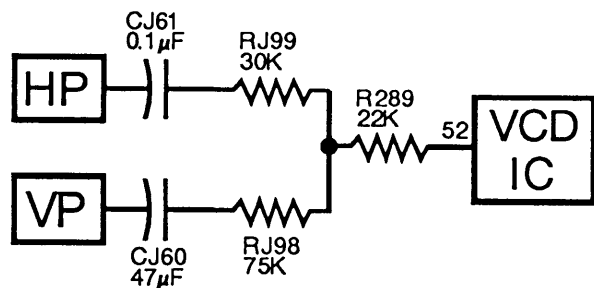

Figure 9-5: Dynamic Contrast Circuit
A Dynamic Contrast circuit is included to improve contrast in the center of the screen. The Horizontal Parabola (HP) and Vertical Parabola (VP) waveforms from the convergence circuit are added via the capacitors and resistors as shown in Figure 9-5. This signal is applied to the VCD IC, Pin 52.